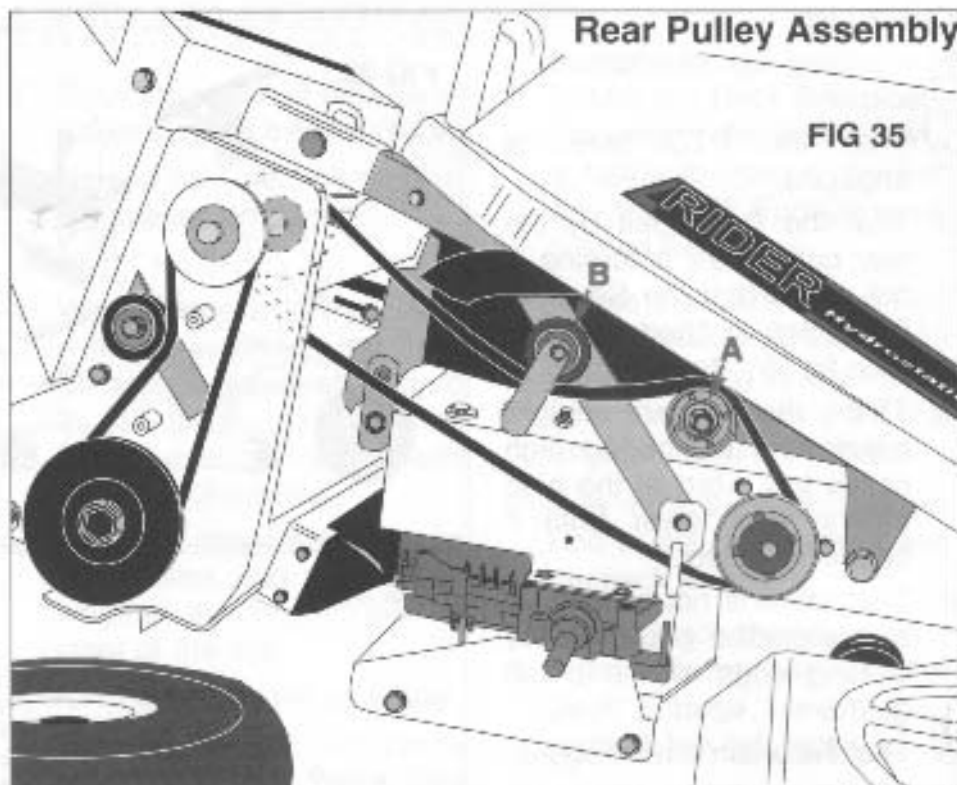

FIG 35
- 2/ That the Drive Belt by the rear right wheel is turning. If not check that the Sweeper Drive Belt is fitted correctly (see fig 35) If not, rectify.
- 8/ To refit the collector reverse this procedure but be careful to ensure that the belt is as shown in Fig 35 - that is with lower part of the belt passing through the Belt Guard and the upper part passing over the forward (bright metal) Roller Guide (A) and under the rear (black plastic) Roller Guide (B).